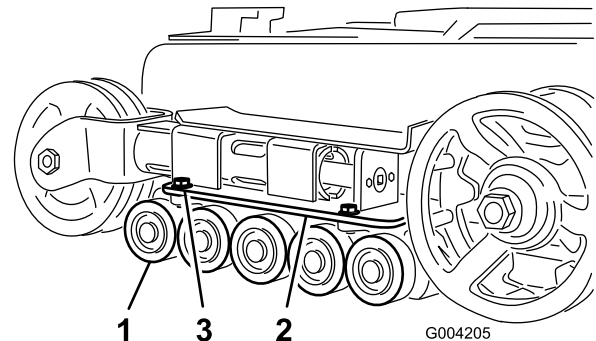

Figure 43
2. Remove the 4 bolts securing each lower track guide which contains the road wheels, and remove them (Figure 43).